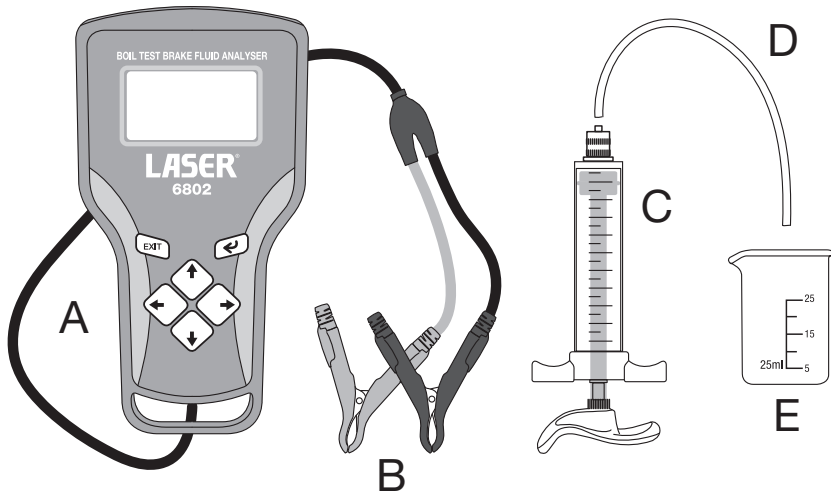

Fig 1
- Refer to Figure 1: fit the clear polyurethane tube (D) to the syringe (C). Using the syringe, remove approximately 25ml of brake fluid from the vehicle's brake fluid reservoir, then evacuate this fluid into the supplied brake fluid test container (E). Note: recommended volume of brake fluid to be tested is 20-25ml.